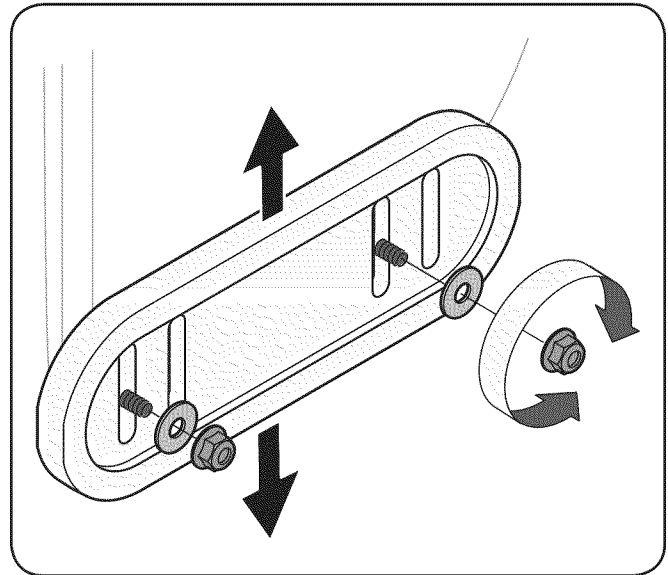

Figure 3-30
1. Loosen the four hex nuts (two on each side) and carriage bolts. Move skid shoes to desired position. See Fig. 3-30.
**NOTE:** The skid shoes on your snow thrower may look slightly different (and have different hardware) than the ones shown in Fig. 3-30.